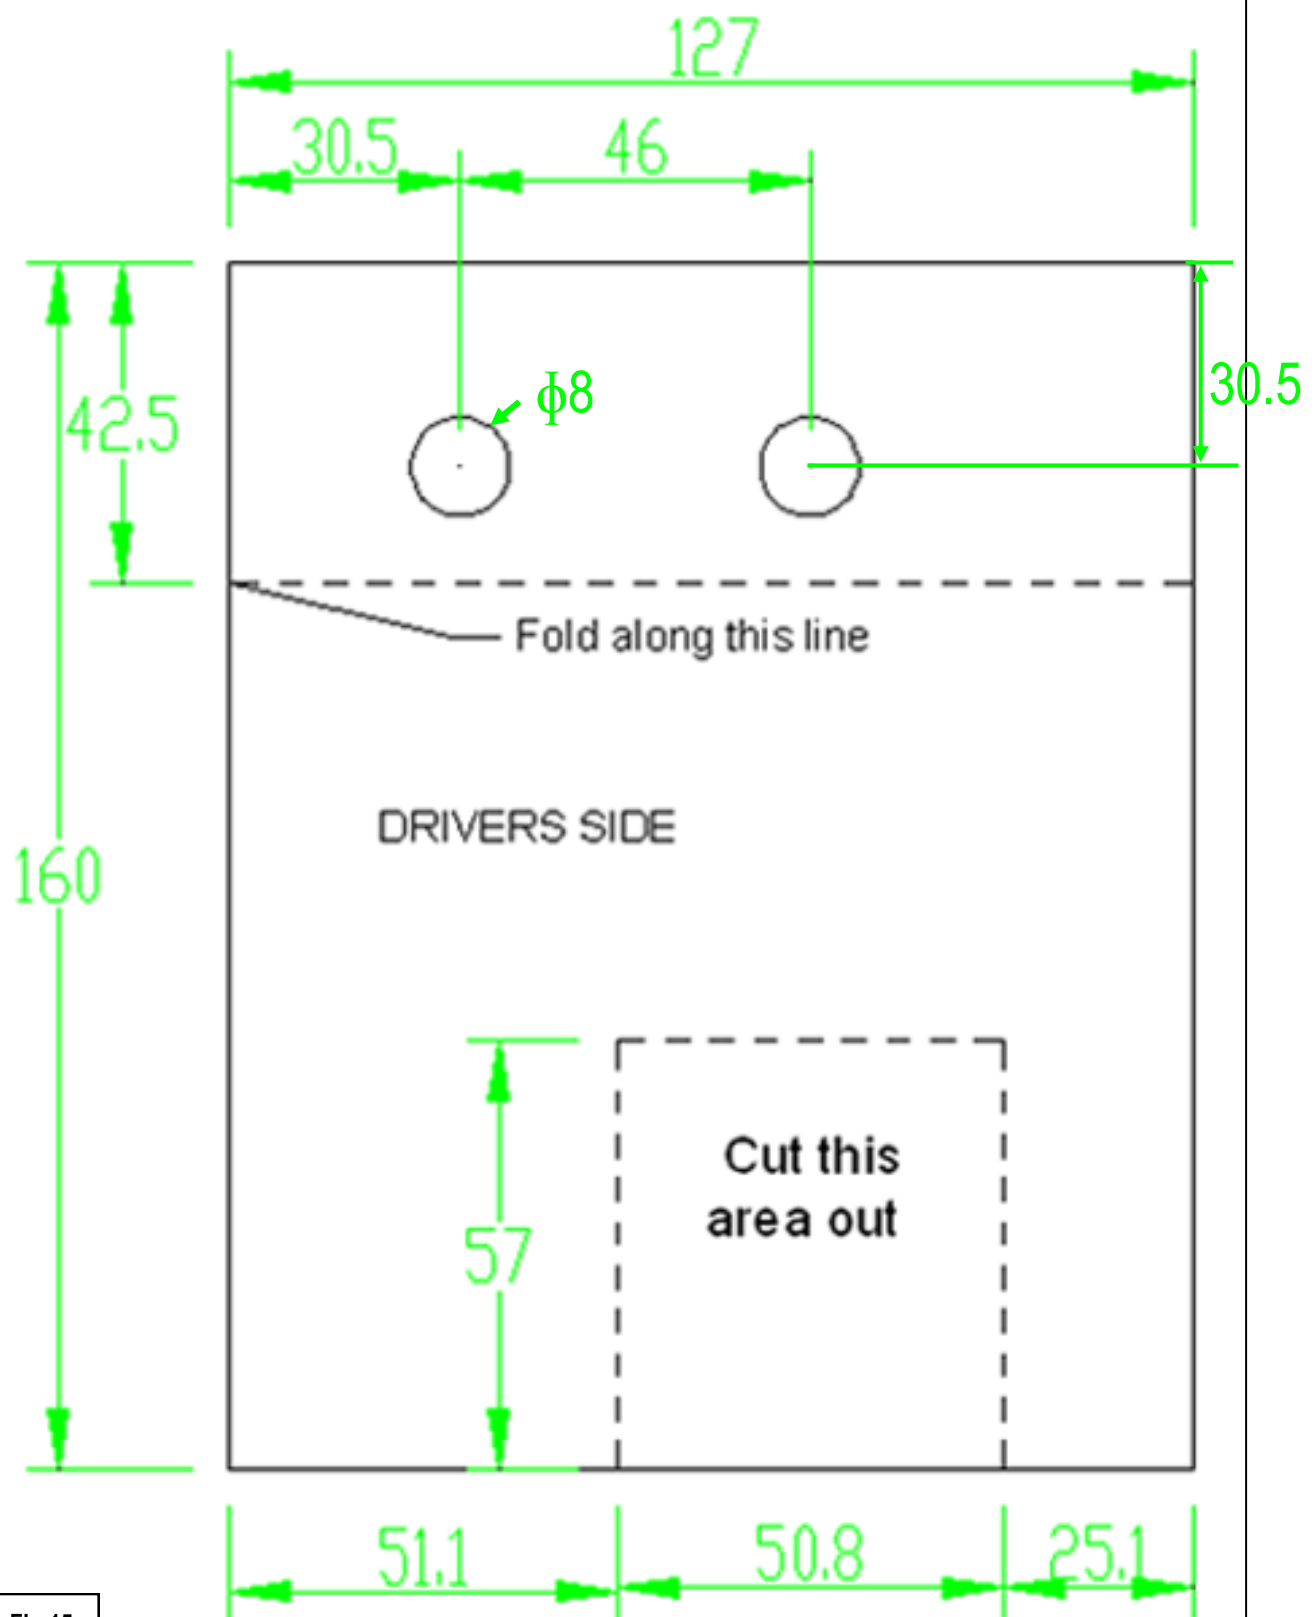

Fig 15
Cut out the paper template on **Fig 15 & 16** labeled "Driver Side". Cut out the square section on the bottom of the Template and the (2) 8mm holes on the top. Fold the top of the Template up along the dotted line, (**Fig 2**). Hold the Template in place over the outer (2) factory 8mm threaded holes next to the pinch weld, (**Figs 3 & 4**). **IMPORTANT:** There are (4) threaded holes at each mounting location, (2) inner on bottom of frame channel and (2) outer next to pinch weld, (**Fig 5**). Hold the correct Template over the outer threaded holes and up against the plastic cover, (**Fig 4**). Use a marker to trace the cut out section on the bottom of the Template onto the plastic cover. Repeat this Step to mark the rear bracket location for cutting.
**Cut Out Square And (2) Round Holes**